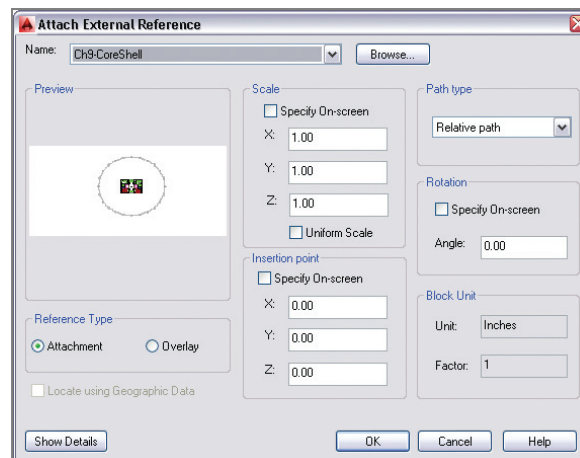

FIGURE 9.27 Attaching an external reference
5. In the Attach External Reference dialog box that appears, deselect Specify On-Screen in the Insertion Point area (see Figure 9.27). Click OK.